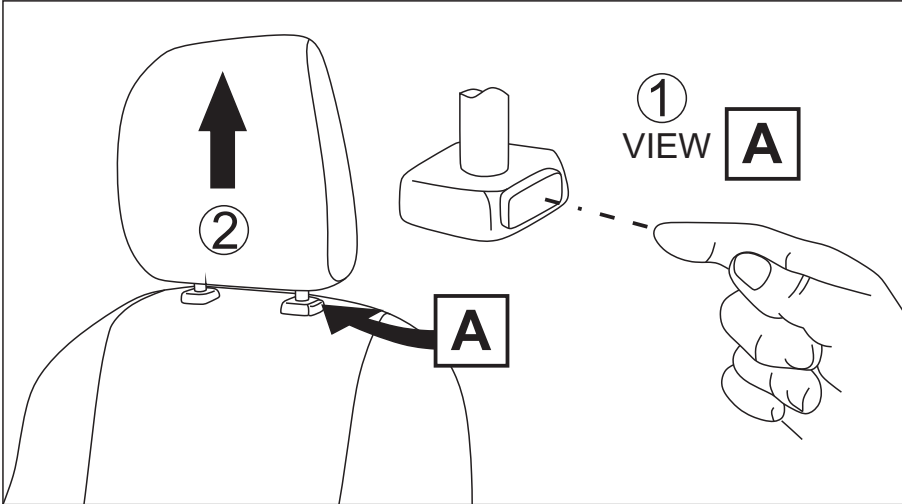

Fig.1
1. Remove the headrests from the front seats backrests (Fig.1).